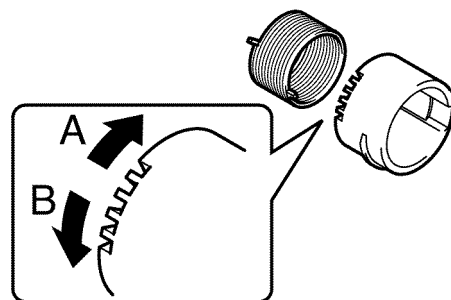
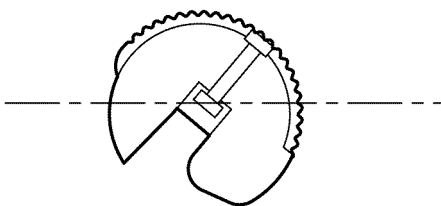
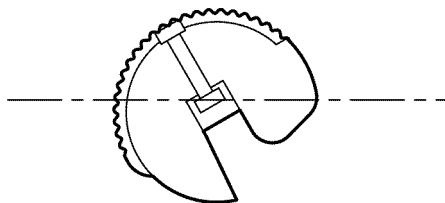

Figure 2
Figure 4
Figure 5
The Coupling Gear has five positions for adjusting the position of the Feed Roller (Figure 2).
4. Check the position of the Feed Roller. If the Feed Roller is biased clockwise (Figure 4), move the coupling gear in the direction of A (refer to Figure 2).
5. If the Feed Roller is biased counter-clockwise (Figure 5), move the coupling gear in the direction of B (refer to Figure 2).